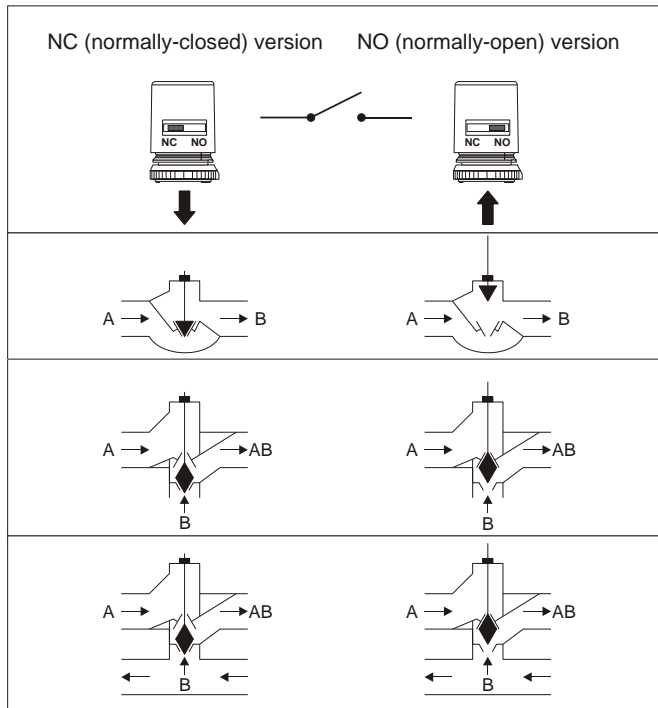

Fig. 6. Valve action
**NOTE:** Fig. 6 is a schematic diagram showing typical valve action. Actual function can vary depending upon the individual type of valve.